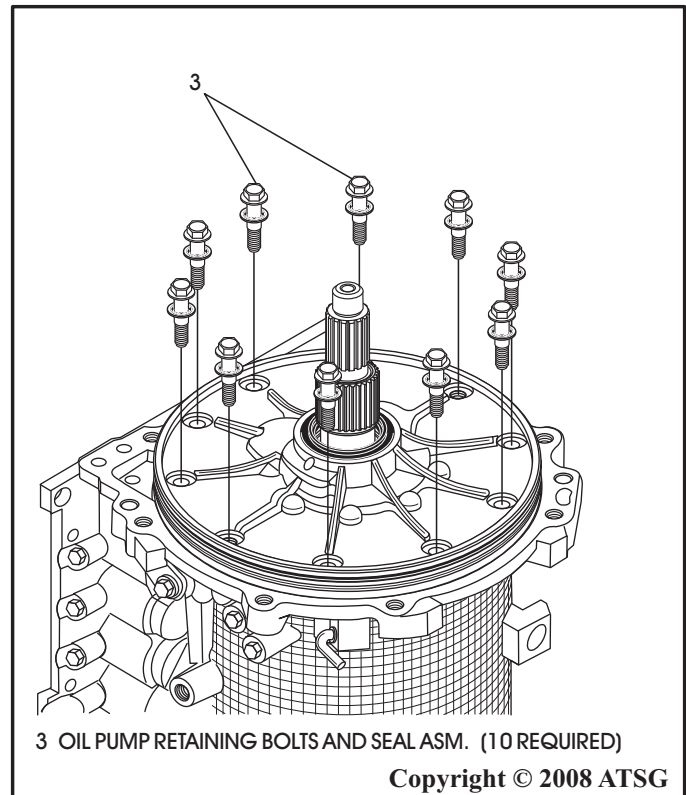

Figure 43
21. Remove the 10 oil pump assembly retaining bolts, as shown in Figure 43.